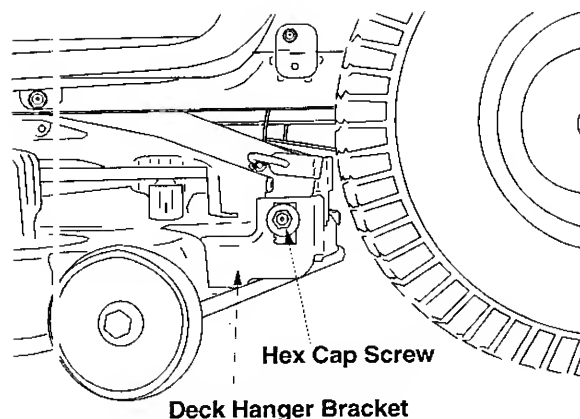

Figure 14
- Loosen, but do NOT remove, the hex cap screw on the left deck hanger bracket. See Figure 14